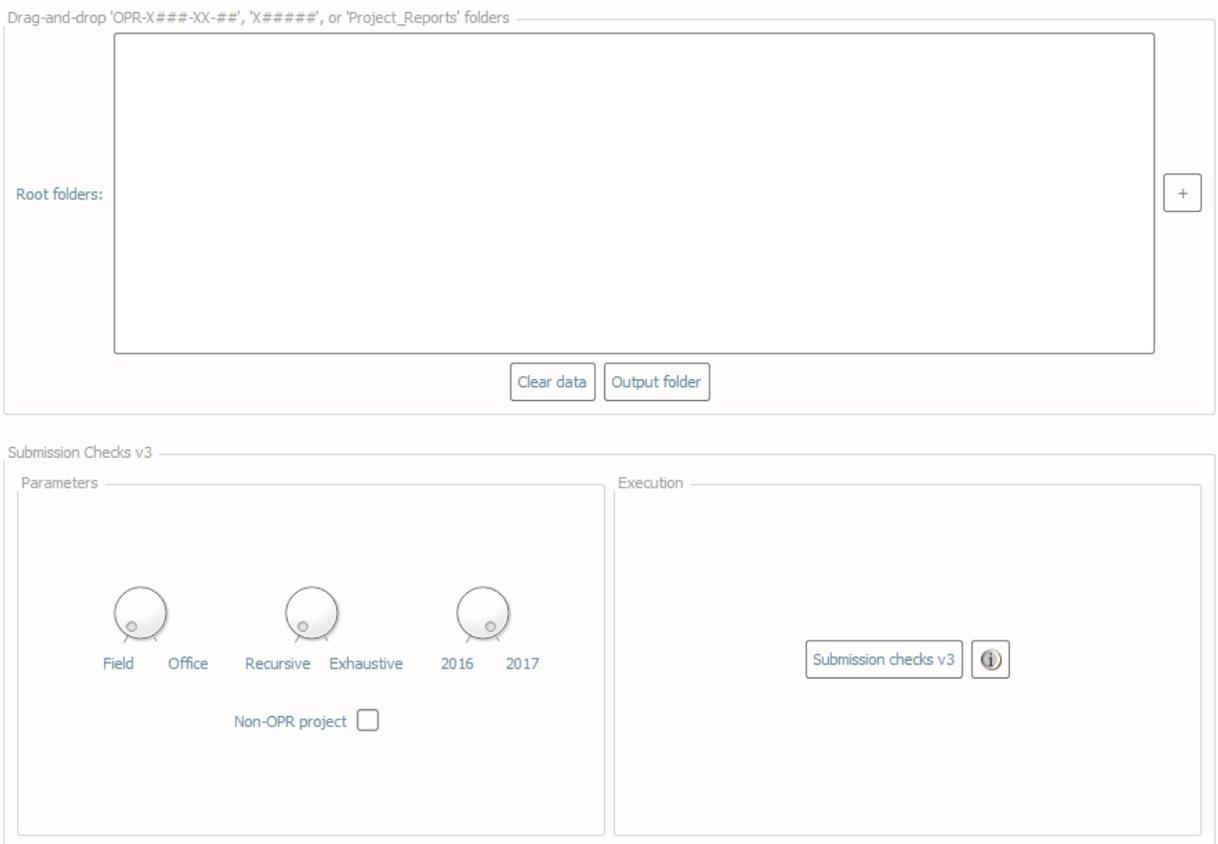

Fig. 2.34: The **Submission check** interface.
- In **Parameters** (Fig. 2.34, left side):
- In **Execution** (Fig. 2.34, right side), click **Submission checks v3**.